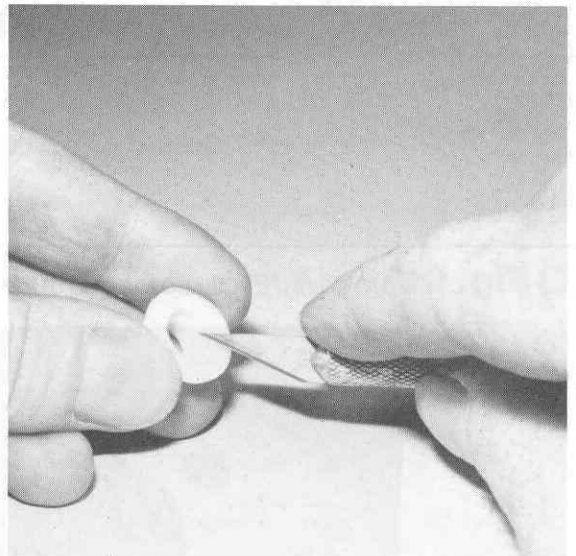

Fig. 87
□ **Fig. 87** Take the other bearing adaptor and cut a small notch in the edge, as shown. This will make installing and removing the "E" clip a lot easier.